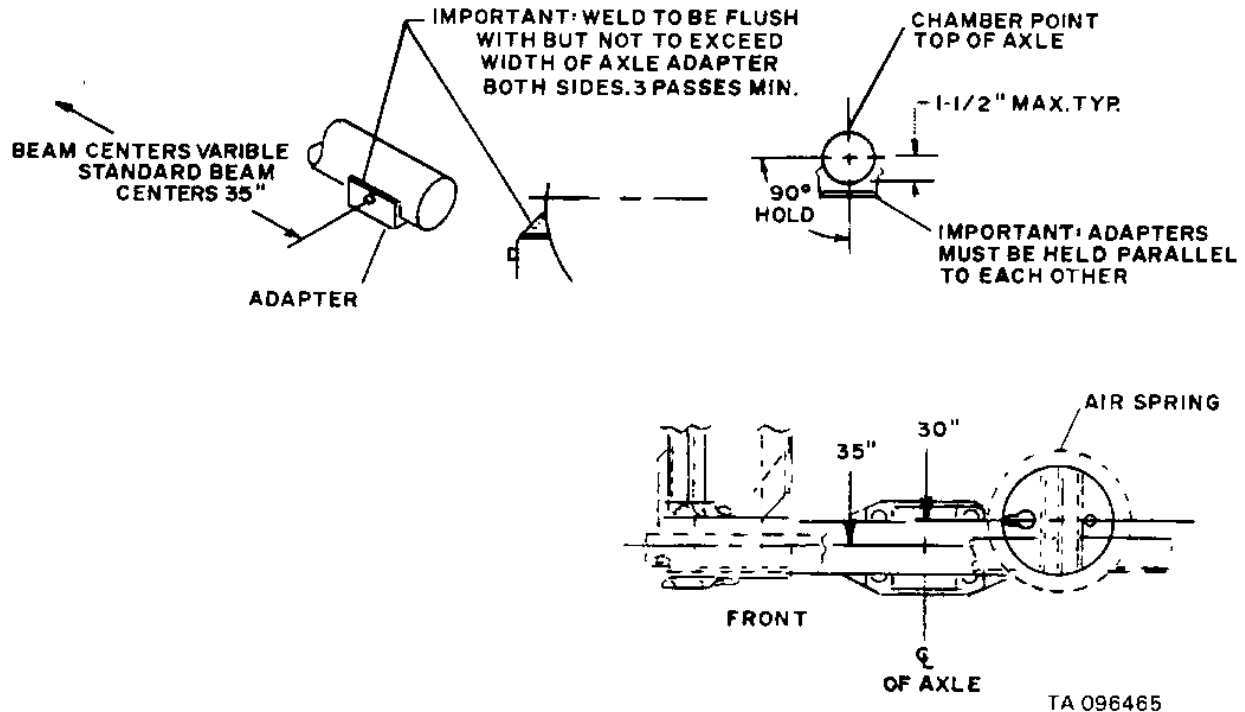

Figure 6-3. Assembly of new axle
e. *Assembly of New Axle (fig. 6-3).*